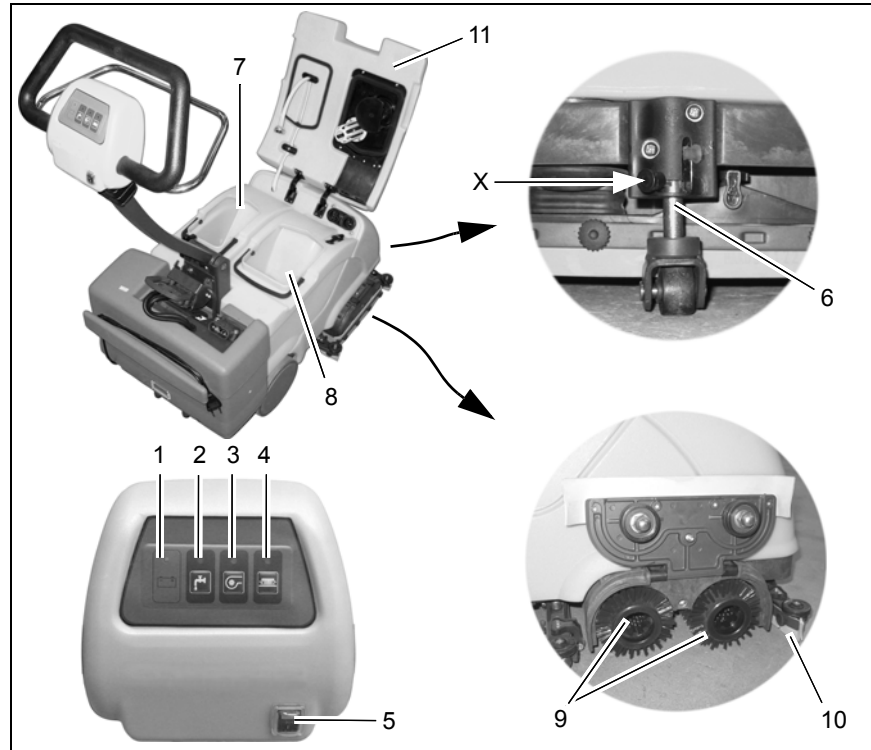

Fig.11
1. Switch the machine off with the main switch (Fig. 11/5).
2. Check the battery indicator (Fig. 11/1), recharge the batteries as necessary; refer to Section 5.4.1.
3. Raise the brush head by tipping the shaft and slide the supporting rollers (Fig. 11/6) to the parking position (X).
5. Empty and rinse out the solution tank (Fig. 11/7) and recovery tank (Fig. 11/8).
- Brushes (Fig. 11/9) in the brush head
- Sealing strips (Fig. 11/10) on the squeegee
- Solution filter, air intake filter and seals in the housing cover (Fig. 11/11)